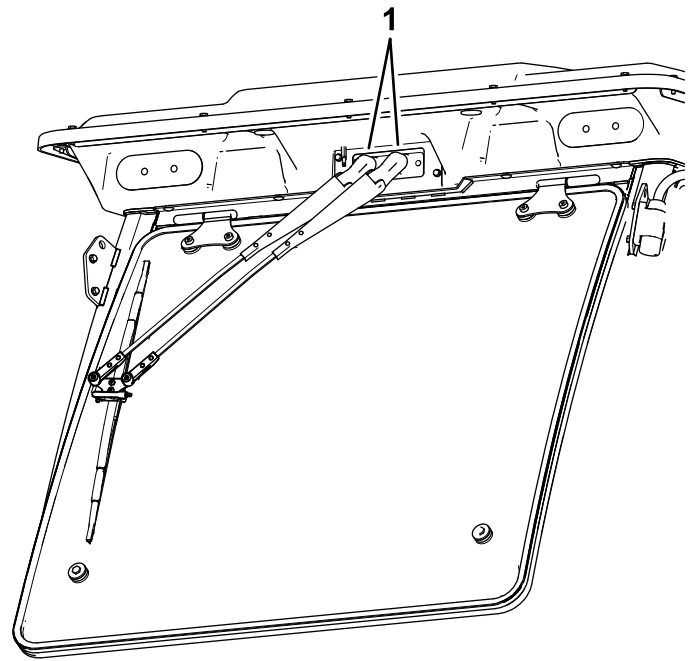

Figure 85
1. Open the caps at the top of the wiper arms (Figure 85).